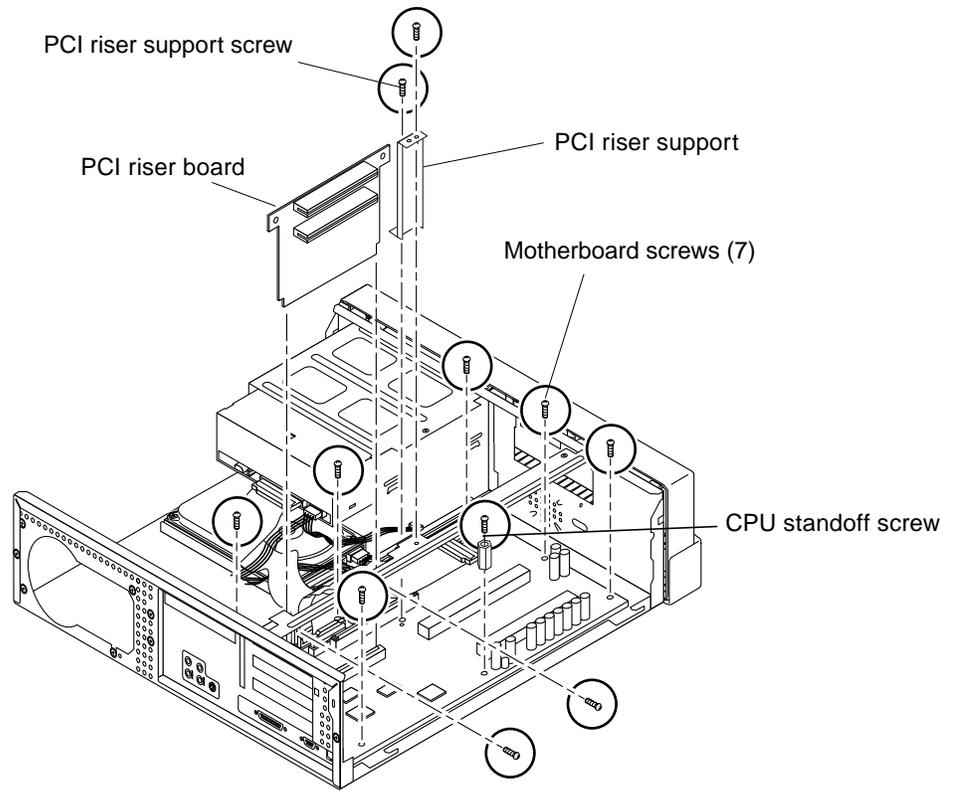
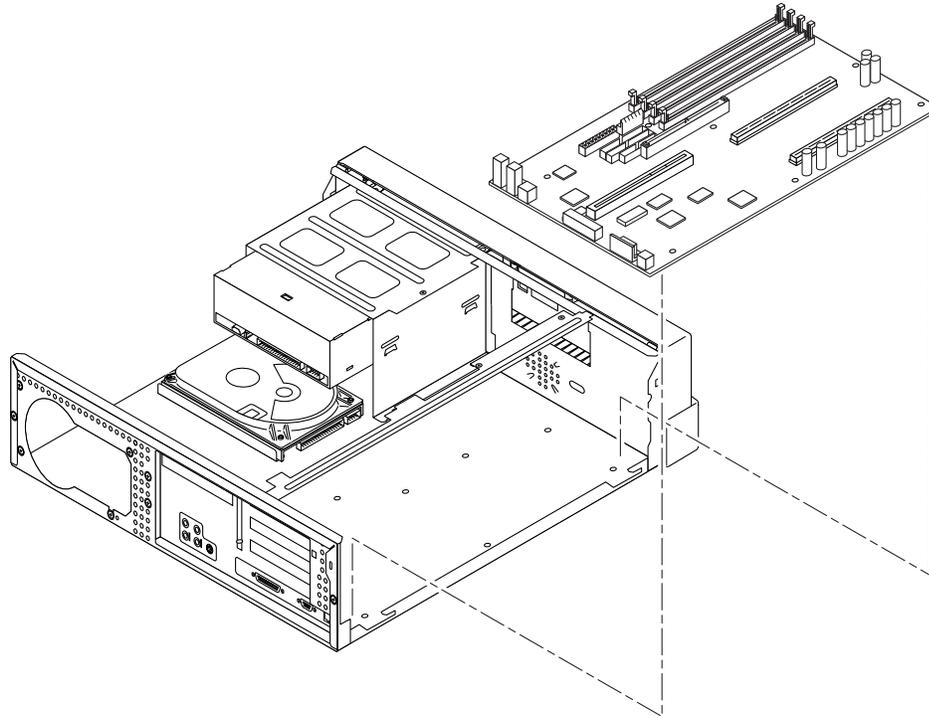

FIGURE 8-7 Removing and Replacing the Motherboard, Part 1
FIGURE 8-8 Removing and Replacing the Motherboard, Part 2
2. **Remove the motherboard as follows (FIGURE 8-7 and FIGURE 8-8):**
2. Replace the motherboard as follows (FIGURE 8-7 and FIGURE 8-8):